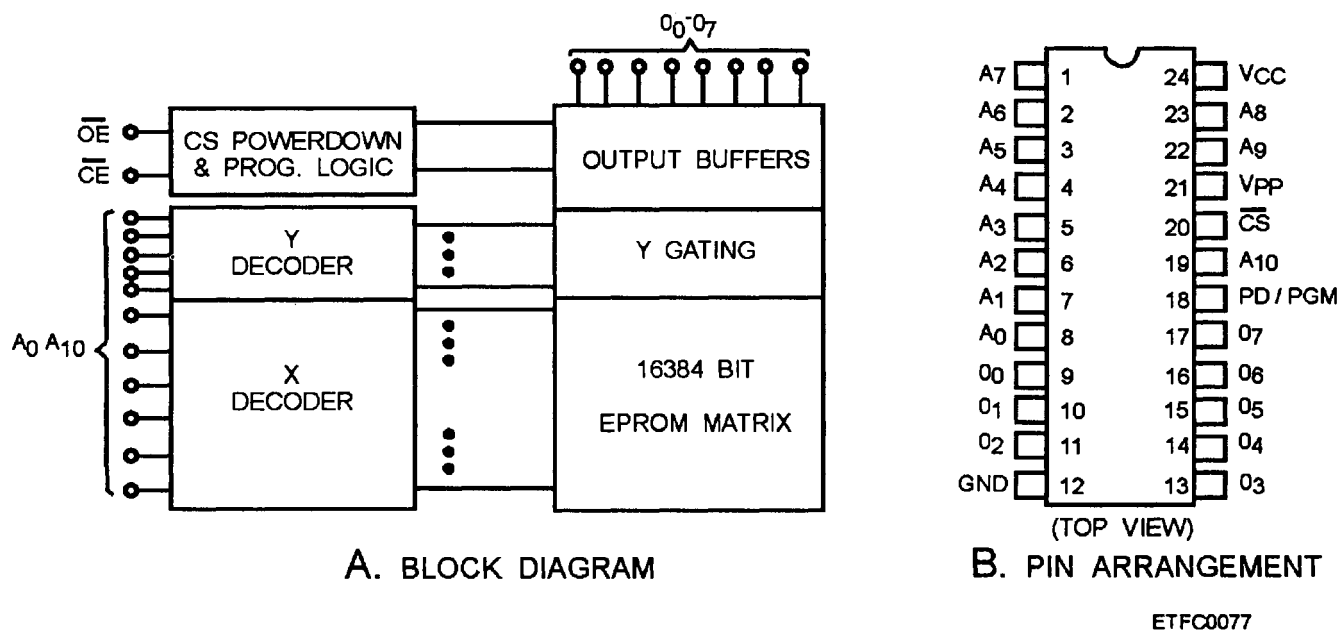

Figure 6-38.—Example of a MOS UV EPROM: A. Block diagram; B. Pin arrangement
**ULTRAVIOLET-ERASABLE PROM (UV EPROM OR EPROM).**— UV EPROMs/EPROMs trap a charge (1) in the cells to represent the data. To release the charge, the cells are exposed to the UV light for 30 minutes or less. UV EPROMs/EPROMs are usually programmed out of circuit. Figure 6-38 is an example of a  $2K \times 8$  UV EPROM; block diagram and pin assignments.